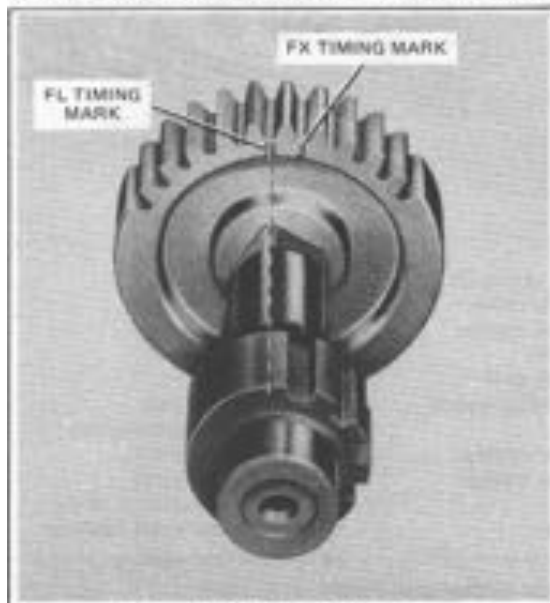

Figure 4-13. Timing Shifter Gear
### DISASSEMBLING SHIFTER COVER (Figure 4-13)
Note position of the timing mark (Figure 4-13). This is the proper timing alignment.
Position shifter gear (29) and spring (30) in case, so side of gear with timing mark is toward case. Insert shifter shaft (31) so parts are timed as shown in Figure 4-13 and tap parts together. Insert cotter pin (28).